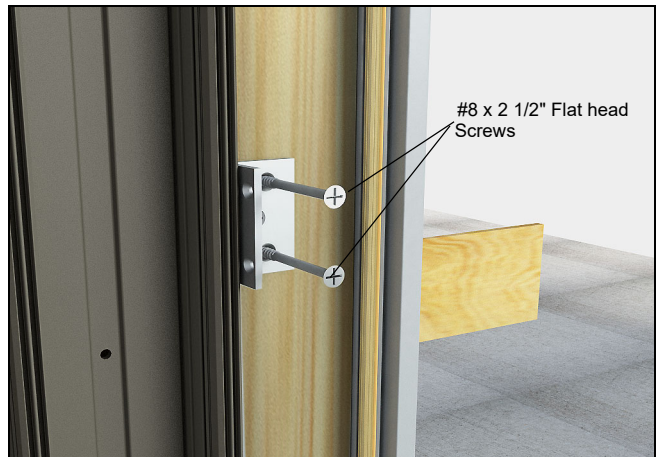

Figure 40
- Install the stationary bracket, installation #8 x 2 1/2" flat head screws through the brackets and into the rough opening. At top and bottom of wood filler fasten using #8 x 3" washer head screws using counter-bored holes. Ensure there are adequate shims between the rough opening and stationary jamb where the brackets are located. See figure 40.